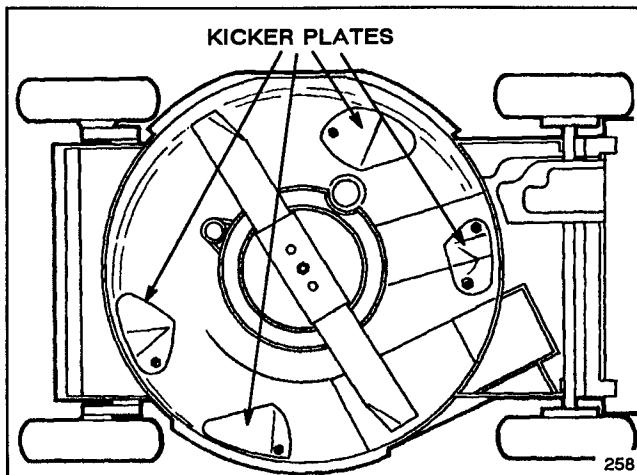

Figure 23
2. Tip mower on its right side (Fig. 23). Avoid rotating blade because starting problems may result.